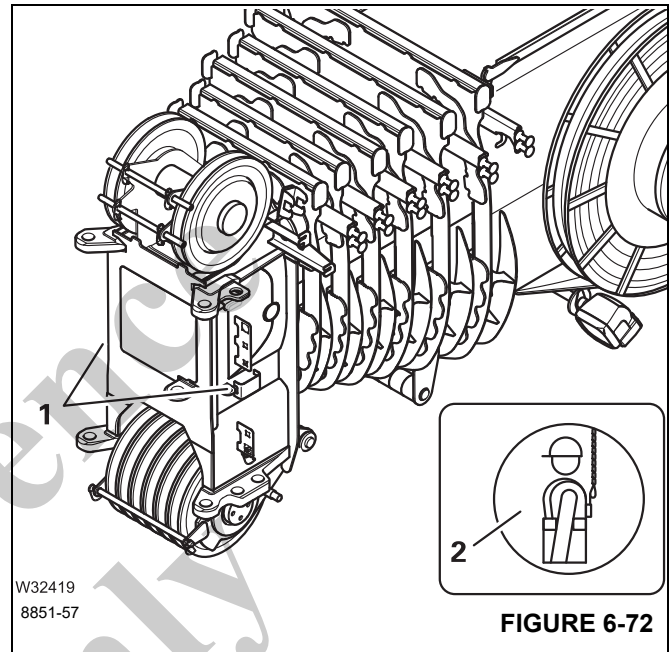

FIGURE 6-72
The approved slinging points for personal safety equipment are marked with special labels (2), (Figure 6-72).
For rigging work on the main boom, always secure yourself using the slinging points (1), (Figure 6-72) and your personal safety harness (2), (Figure 6-72).